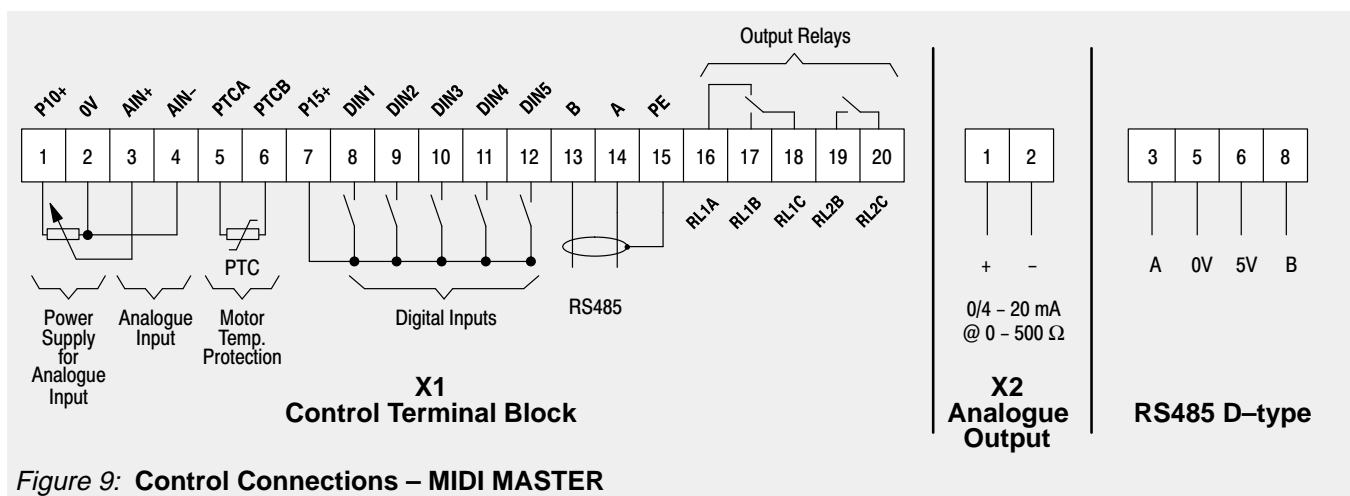

Figure 9: Control Connections – MIDI MASTER
- (1) Connect control terminal 7 to terminal 8 via a simple on/off switch. This sets up the motor for clockwise rotation (default).
- (2) Connect a 4.7 k Ω potentiometer to the control terminals as shown in Figure 6 (MICRO MASTER) or Figure 9 (MIDI MASTER) or connect a 0 – 10 V signal from pin 2 (0V) to pin 3.
- (3) Set the position of SW1 for voltage (V) input.